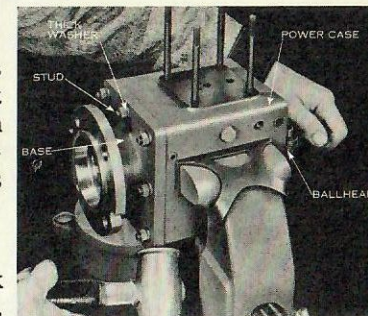

FIG. 30-1
12. Strike various corners of base with babbitt hammer as shown in Fig. 30-1 until the rotating sleeve turns freely.